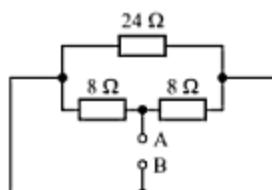

Fig. 2.42
16. Find the equivalent resistance between points A and B in the network shown in Fig. 2.42.